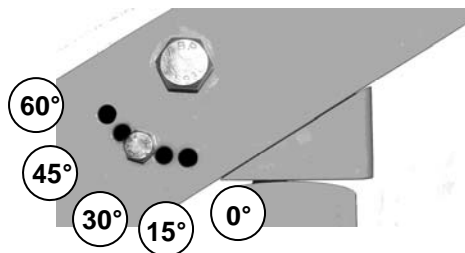

Figure 5-3: Solar engine inclination
- Remove the locking bolt from the solar engine bracket and adjust the solar engine to the required inclination. You can adjust the solar engine bracket from 0° to 60° in 15° increments. Reinstall and securely tighten the locking bolt and main pivot bolt; see Figure 5-3.